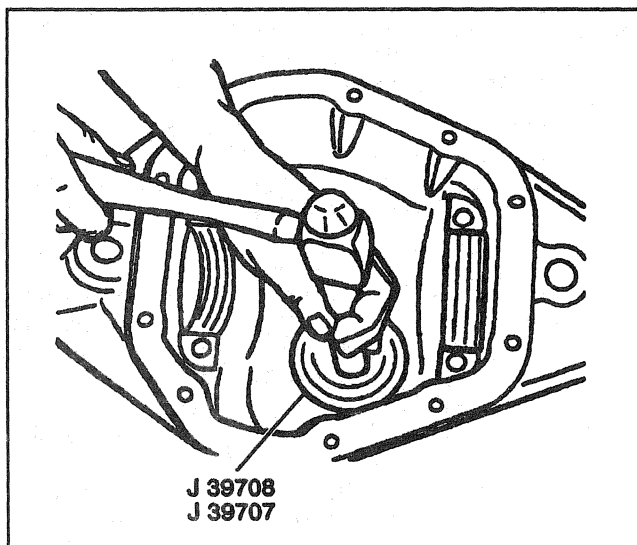

Figure 21—Installing Inner Pinion Bearing Cup
⇄ Install or Connect (Figures 21 through 24)
2. Drive the inner bearing cup into the axle assembly using J 39708 and J 39707. The cup must be seated on the shims (Figure 21).